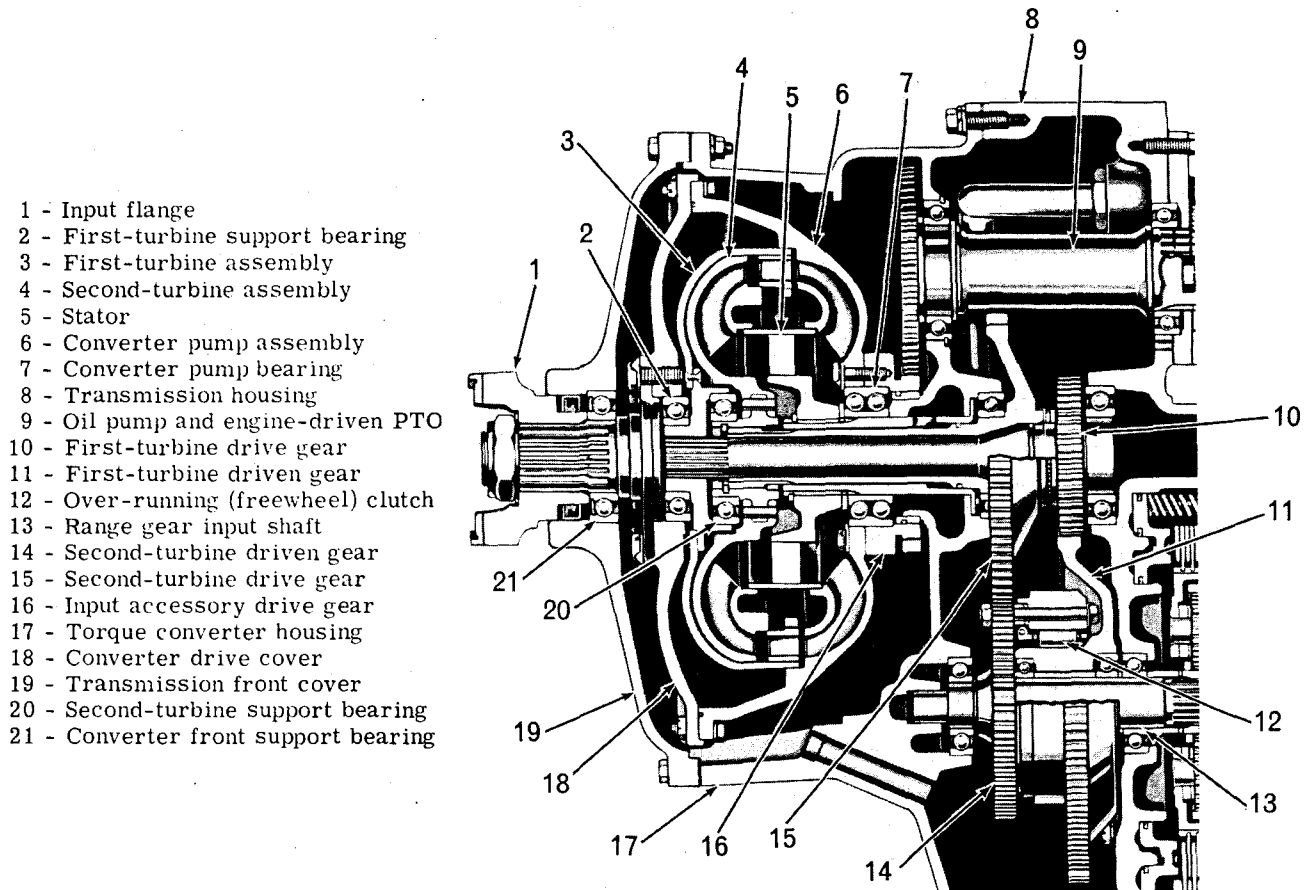
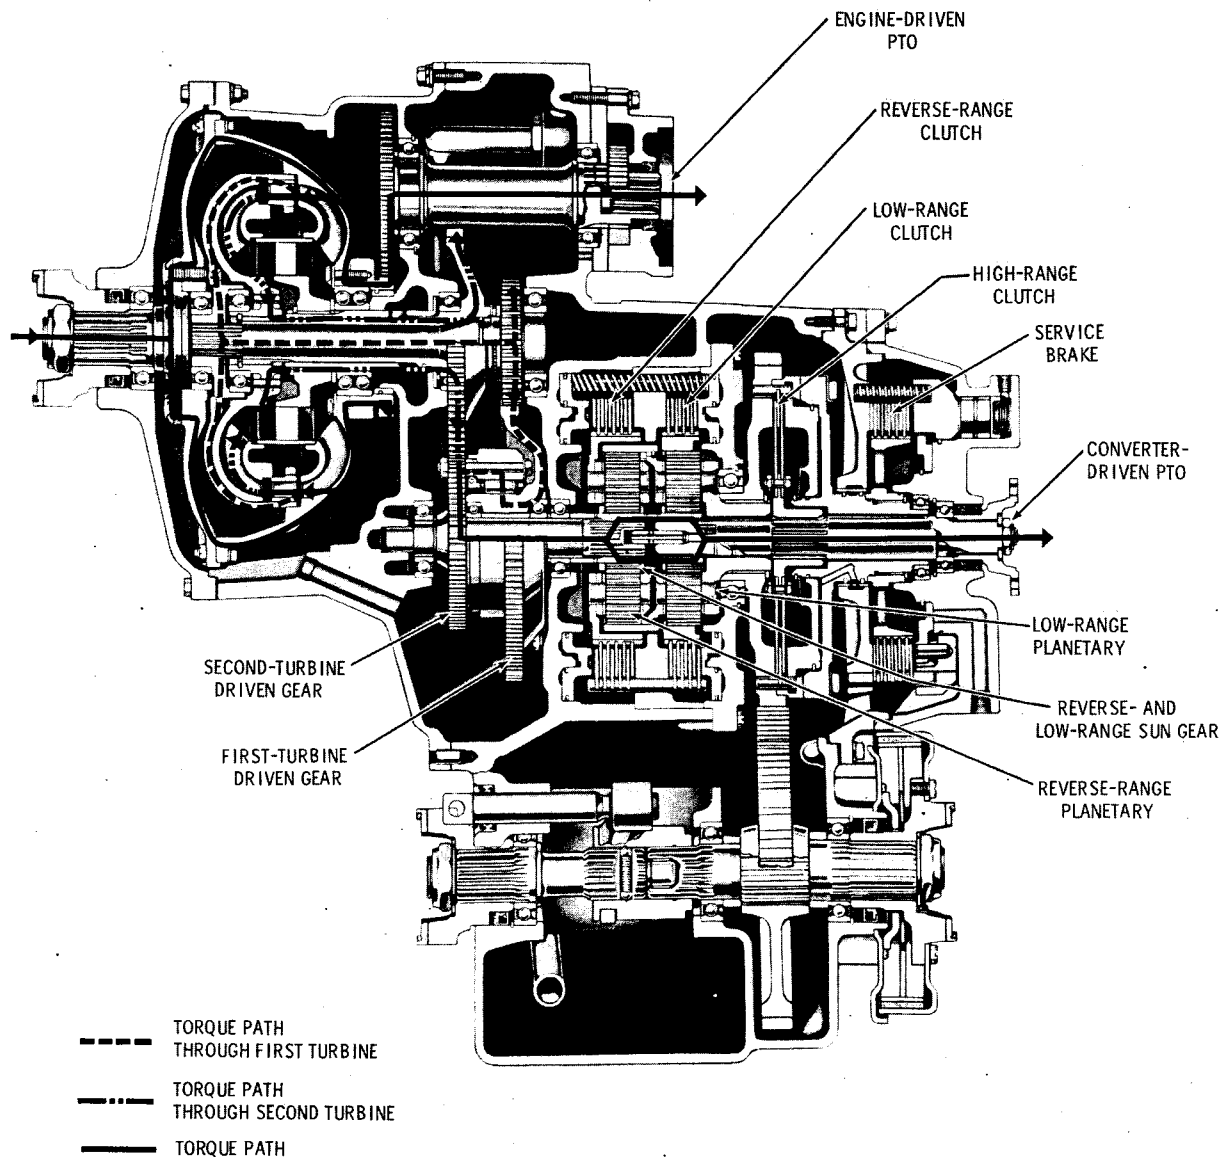

Fig. 2-4. Typical Powershift torque converter and converter gearing—
Fig. 2-5. Neutral torque path (TTB 2221-1 with converter-driven PTO)
(1) Figure 2-4 is a cross-section view of the twin-turbine torque converter. Figures 2-5 through 2-8 illustrate the paths through which the power flows from the engine to the transmission outputs.
(2) Because the driving turbine is automatically determined by the load and speed requirement imposed by the vehicle, the torque path through the converter is not necessarily confined to a specific operating range. Thus, both paths are shown—a dotted red line indicates the first-turbine torque path and a broken red line indicates the second-turbine torque path. Engagement of the range clutches is indicated by horizontal red bars across the clutch plates.
Clutch (fig. 2-4)
a. First Turbine (fig. 2-4). Torque from converter pump assembly 6 is transmitted hydraulically to first-turbine assembly 3. The first turbine is splined to first-turbine drive gear 10 which meshes with first-turbine driven gear 11. The first-turbine driven gear is connected by freewheel clutch 12 to second-turbine driven gear 14. The second-turbine driven gear is integral with range gear input shaft 13. The reverse-and-low-range sun gear is splined onto the shaft end. Thus, all these components rotate when the vehicle is operating in a high-load, low-speed condition. The hydraulic action in the converter and the interconnection
b. Second Turbine (fig. 2-4). When the output speed of the converter increases, the load is assumed by second-turbine assembly 4, and when it attains sufficient speed, freewheel clutch 12 will disengage. This allows first-turbine assembly 3 to rotate freely, and no drive is contributed by the first turbine. Second-turbine assembly 4 is splined to the hollow shaft of second-turbine drive gear 15. The drive gear meshes with second-turbine driven gear 14 (integral with range gear input shaft 13) which is splined with the reverse-and-low-range sun gear. Thus, all these components rotate when the vehicle is operating in a low-load, high-speed condition.
## 2-16. NEUTRAL AND POWER TAKEOFF— TORQUE PATH (fig. 2-5)